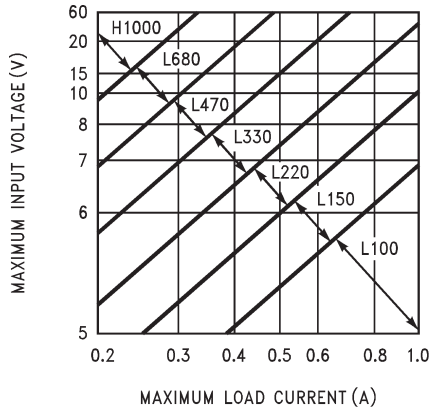
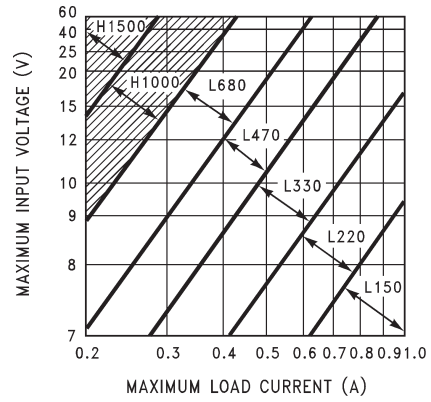
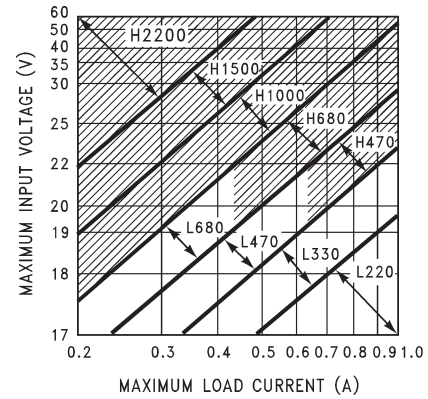

Figure 15. TL2575-33
Figure 16. TL2575-50
Figure 18. TL2575-15
1. Inductor Selection (L1) A. From Figure 15 through Figure 18 , select the appropriate inductor code based on the intersection of $V_{IN(Max)}$ and $I_{LOAD(Max)}$. B. From Table 2 , choose the appropriate inductor based on the inductor code. Parts from three well-known inductor manufacturers are given. The inductor chosen should be rated for operation at 52-kHz and have a current rating of at least $1.15 \times I_{LOAD(Max)}$ to allow for the ripple current. The actual peak current in L1 (in normal operation) can be calculated as follows: $I_{L1(pk)} = I_{LOAD(Max)} + (V_{IN} - V_{OUT}) \times t_{on} / 2L1$ Where $t_{on} = V_{OUT} / V_{IN} \times (1/f_{osc})$	1. Inductor Selection (L1) A. From Figure 16 (TL2575-05), the intersection of 20-V line and 1-A line gives an inductor code of L330. B. L330 → L1 = 330 μH Choose from: 34042 (Schott) PE-52627 (Pulse Engineering) RL1952 (Renco)